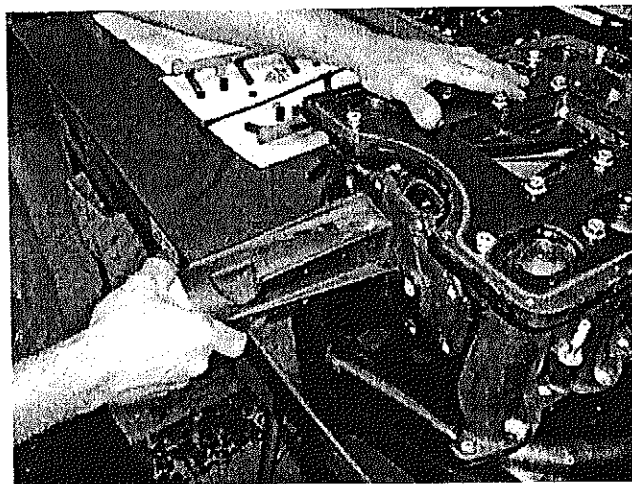

Figure 19
6. Evenly remove the 8 bolts holding the nose drive assembly by alternating from side to side and top to bottom. Support the main assembly and gently rock the nose drive assembly back and forth while pulling the unit from the supercharger plenum. Drain all remaining fluid into the pan (Figure 19).